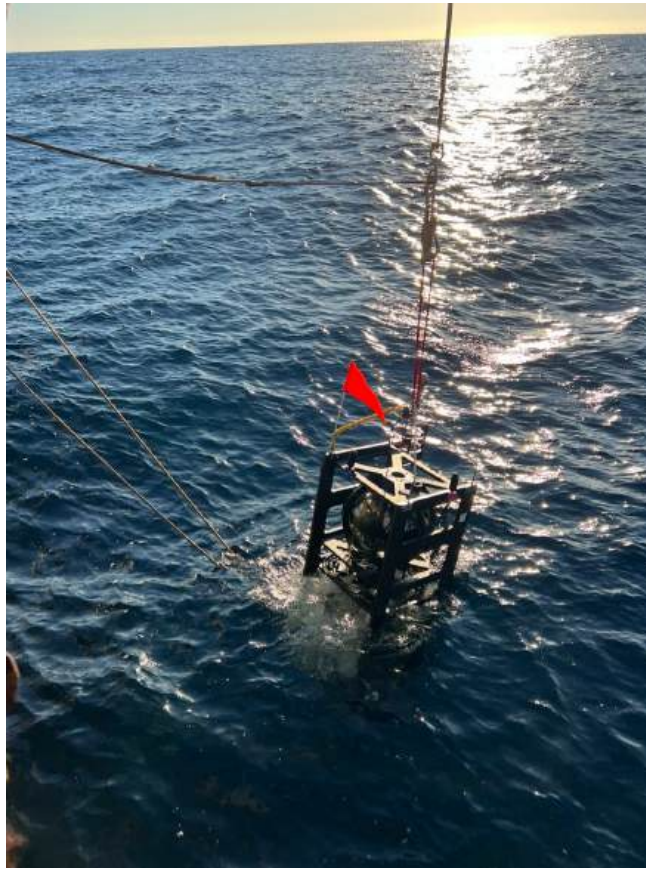

Figure 5.3: A photograph of a Drifter GPSP platform being lowered into the water with the use of a quick-release and a tag-line.
13. Carefully lower the Drifter into the water by hand or using a snap-release crane hook (Figure 5.3). Ensure that the vehicle is not dropped more than a few centimeters to avoid damaging sensitive internal components.